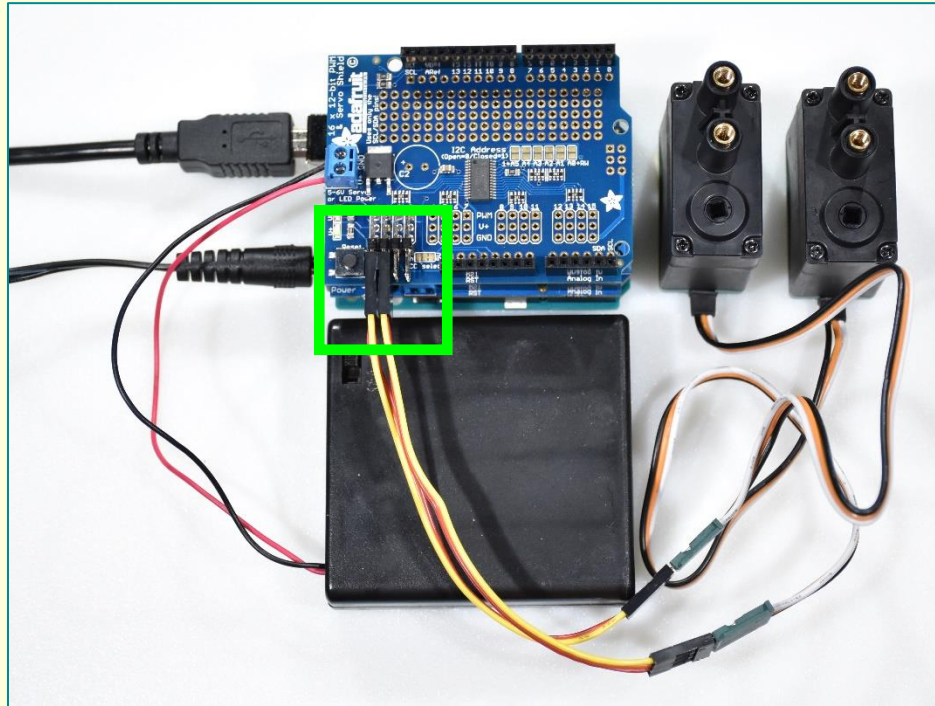

Figure 4-7. Overview of how to connect the servos to the Adafruit PWM/Servo Shield.
2. Connect *Servo 1* and *Servo 2* to the first 2 sets of pins of the 3x4 right angle male header as shown in Figure 4-7.